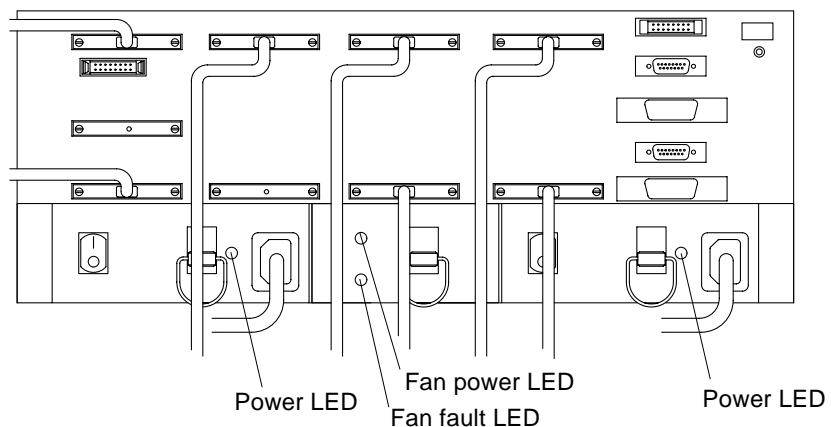
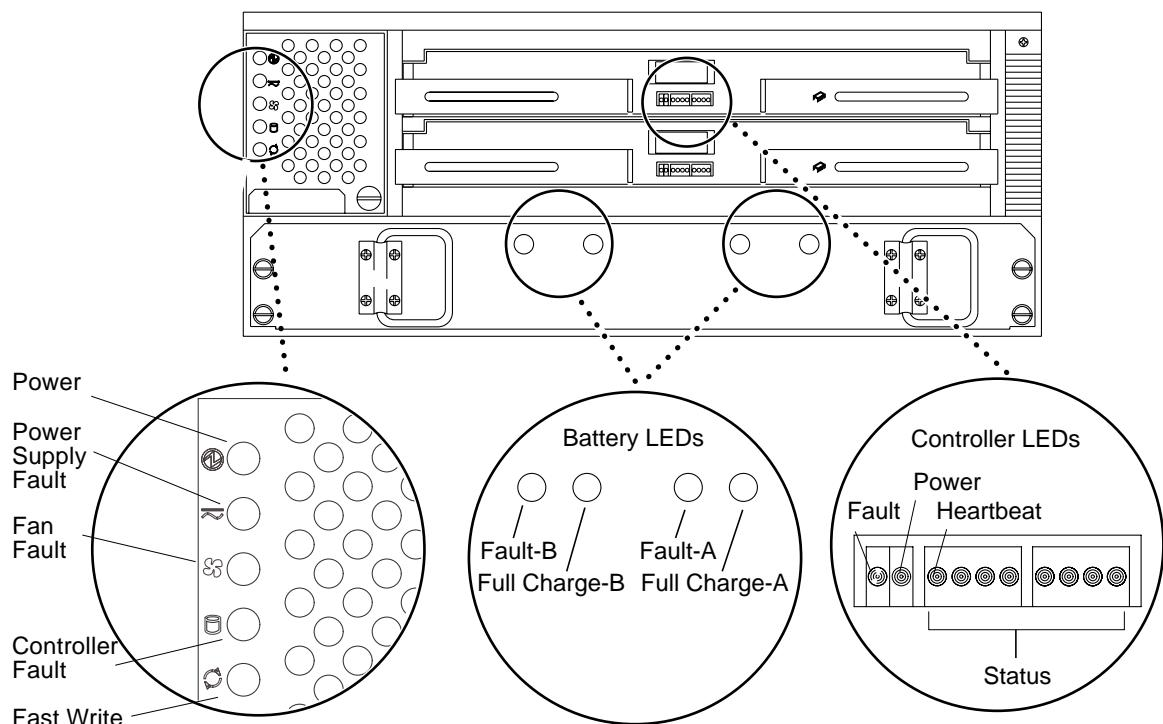

FIGURE 1-20 LEDs on the Back of the Controller Module
FIGURE 1-21 LEDs on Front of Controller Module
4. **Check the LEDs on the front and back of the controller module and the drive trays for faults (FIGURE 1-20 and FIGURE 1-21).**